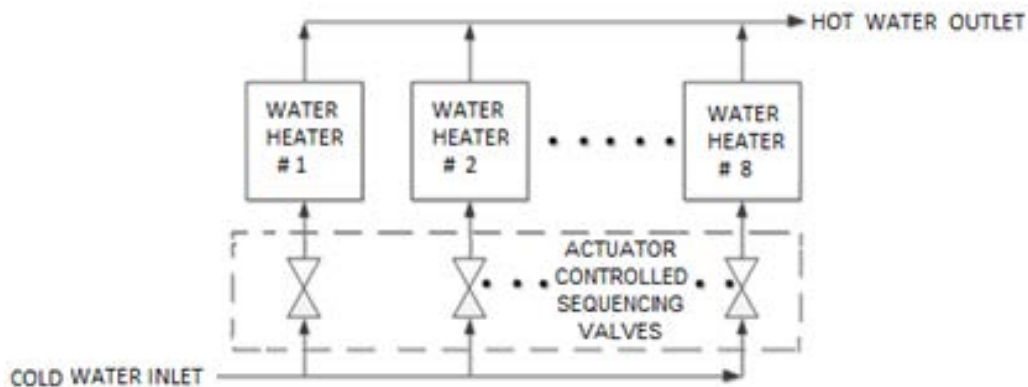

Figure 8-1. Simplified Block Diagram - Water Heater Management (WHM)
The On-Board-Water-Heater Management system II (WHM II) is a feature integrated in the C-More Controller, designed to stage and coordinate multiple AERCO Innovation water heaters while maximizing operational efficiency. The WHM software code resides in each C-More Controller that is part of the system. The WHMII can control up to eight (8) water heaters in parallel. Each water heater controlled by the WHM must be equipped with an Actuator-Controlled Sequencing Valve (P/N 92123). These valves are installed on the cold water inlet on each water heater being controlled by the WHM (see Figure 8-1).
The C-More Controller’s Water Heater Management System (WHM) is designed to ensure that all water heaters in the system operate at maximum efficiency. This is accomplished by monitoring the Air/Fuel Valve position (VP) of all water heaters that have their sequencing valves open. Units with open sequencing valves are called enabled units. Units with closed sequencing valves are called disabled units. Units which are unable to function, due to a fault or user intervention, are called offline units. When there is minimal or no demand for hot water, the sequencing valve for one unit will be open. As system load increases, the WHM will open the sequencing valves on additional heaters. A simplified block diagram of multiple water heaters connected to a WHM is shown in Figure 8-1.